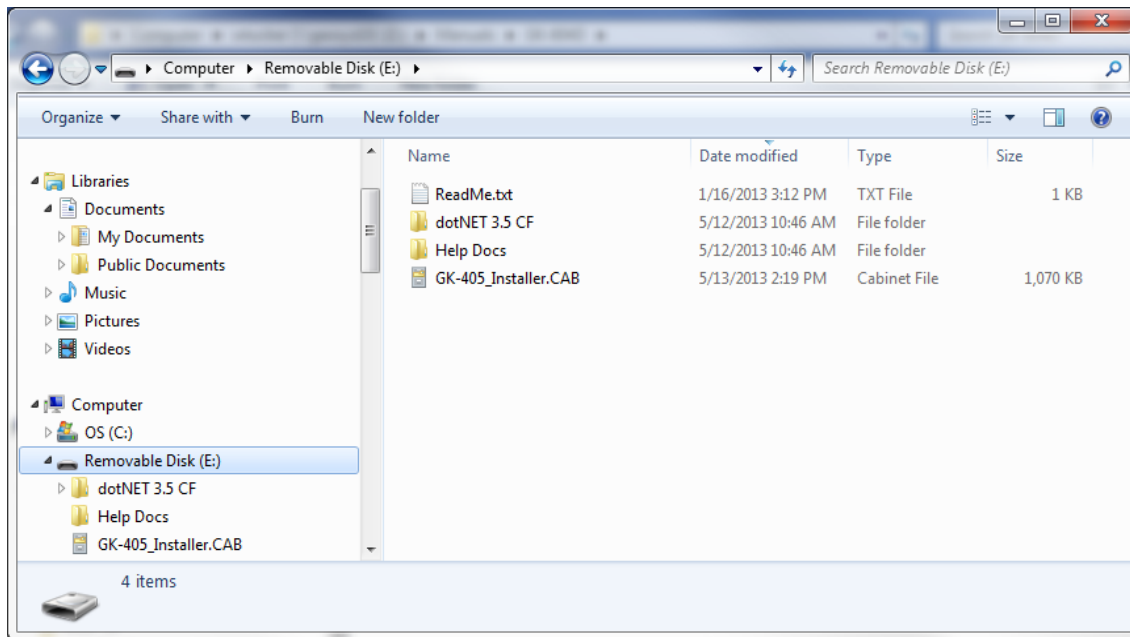

Figure 20 - Installation Folder Contents
- 3) Unzip the installer (downloaded from Geokon's website), open a new Windows Explorer window, and then navigate to the root folder of the installation folder (Figure 20).